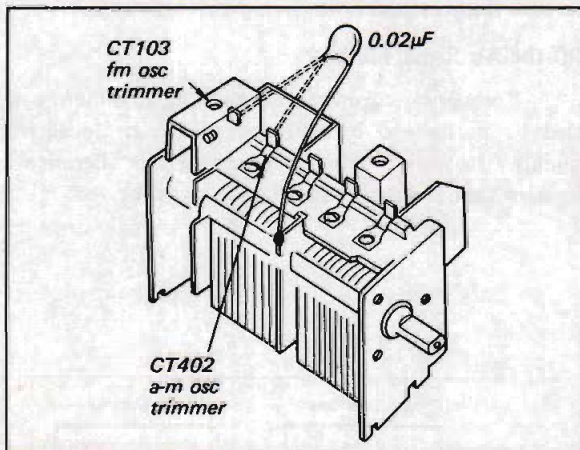

Fig. 3-2. Interruption of fm or a-m local oscillator operation
**Note:** Local oscillator should be killed when performing this alignment. To stop the local oscillator operation, shunt the oscillator capacitor with a 0.02µF capacitor as shown in Fig. 3-2.